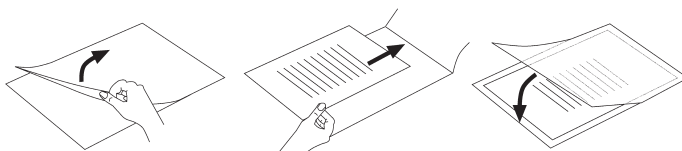

Fig. 2
- ▶ Ensure that you use only one pouch for laminating. First open it up, as shown in Fig. 2.
- ▶ Make certain that you use only one pouch for laminating. First open it up, as shown in Fig. 2 (see p. 64).